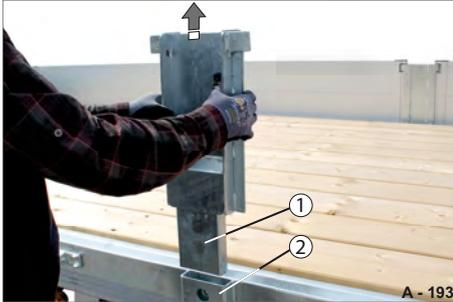

Fig. 123 Removing the middle post
- ▶ Pull the middle post (Fig. 123/1) out of the post pocket (Fig. 123/2).